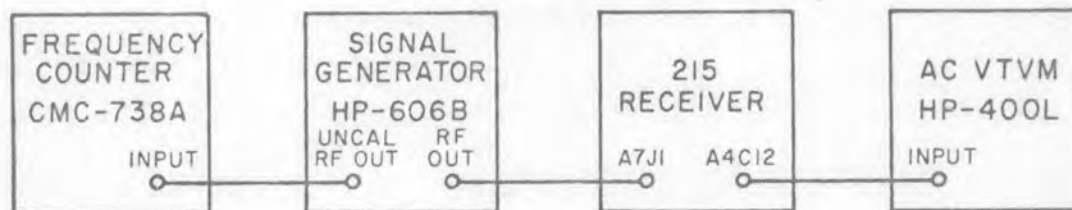

Figure 4-1. Test Setup, AM Output Stability Check
- (1) Set the 215 Receiver controls as follows:
- (2) Connect the equipment as shown in Figure 4-1.
- (1) Place the receiver controls as follows:
- (2) Connect the equipment as shown in Figure 4-1 except the AC VTVM connects to J16.
- (3) Adjust the signal generator to produce an output level of -47 dBm, 1 kHz modulation rate, 50% modulation amplitude. Set the output frequency to 21.4 MHz using the counter.
- (4) Terminate the video output jack, J13, in a 100-ohm load.
- (5) The AC VTVM must read 1.0 V rms, minimum.
- (6) Terminate the audio output, J16 pins 1 and 2, in a 600-ohm load.
- (7) Connect the AC VTVM across the audio output. It must read 7.7 V rms, minimum.